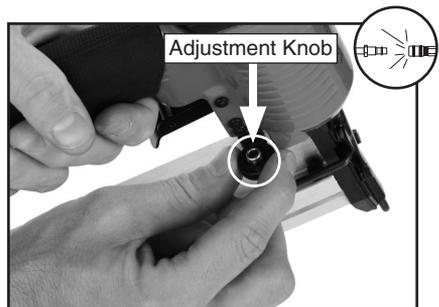

Figure 6. Rotating depth adjustment knob.
2. Rotate the adjustment knob (**Figure 6**) clockwise to drive the nails/staples deeper or counterclockwise to drive the nails/staples shallower.